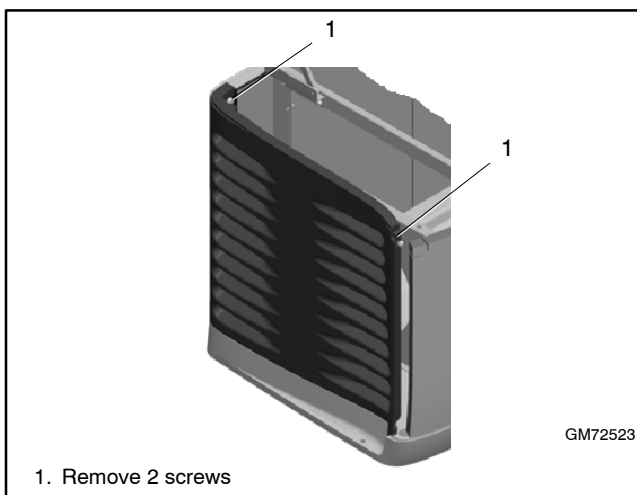

Figure 6-8 Rear Panel (exhaust end panel)
15. Remove two nuts and lift off the exhaust end panel. See Figure 6-8.